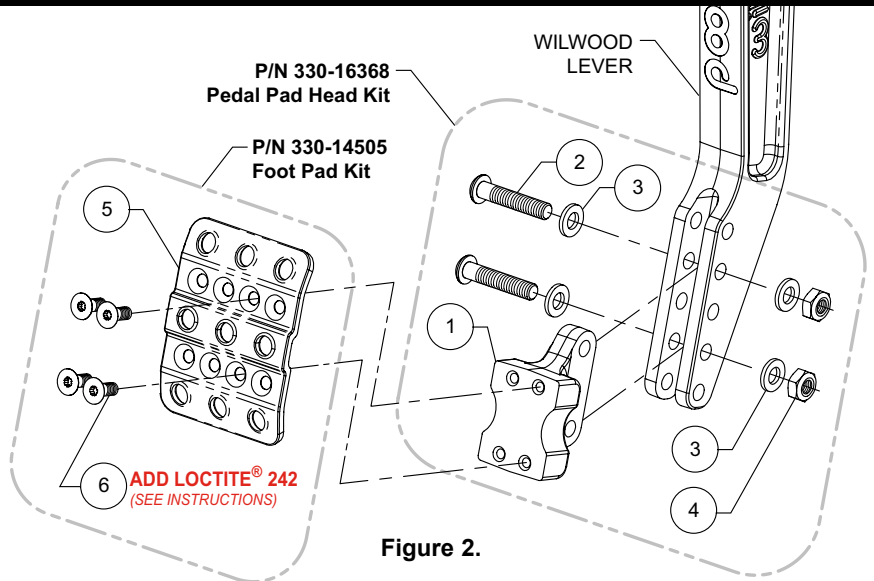

**Figure 1b.**
- Torque locknuts (4) to 120 in-lbs.
- Orient foot pad (5) as shown in Figure 2. Pad may be installed in three different positions as shown in Foot Pad Detail of Figure 1b. Secure to pedal head (1) using four T-20 drive Torx screws (6). Apply blue *Loctite*® 242 to the threads and torque screws to 75 in-lbs.